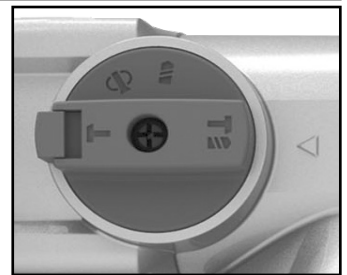

Fig.1
Turn the mode selector switch (7) to mode "  " (see Fig.1).
3. Changing the chiselling position  (see Fig.1)
4. Drilling  (see Fig.1)